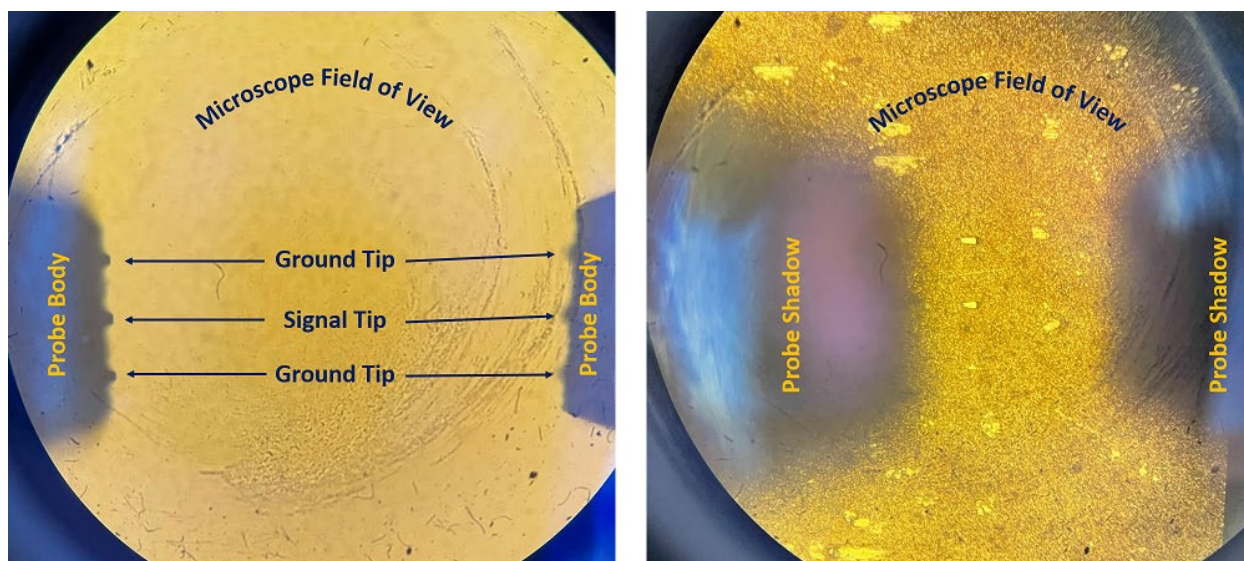

Fig. 3.2. Both probes within the field of view of the microscope but (a) almost touching the wafer chuck and (b) lifted up from the wafer chuck.
- 3.19 If you cannot see the shadow of any probe (Fig. 3.2), adjust the probe positioners to bring the probes closer to the chuck and each other. If you only see one probe in the microscope, carefully position the other probe with your bare eyes to bring it into the view. The microscope has a wider field of view than the TV has, so always check through the microscope before checking on the TV screen. Normally a 10X lens works well with devices that are several hundred microns long, so that the probes need to be several hundred microns apart. For larger devices that require the probes to be farther apart and to be seen under a wider field of view, you may try the 2X lens first. **However, never switch the lens without first raising the microscope fully!**
- 3.20 Raise the probes as high as possible but without losing their shadows as shown in Fig. 3.2(b). This way, when you to move to the contact substrate in the next section, the probes will not crash into them when the z-lever is lowered.
- 4.6 Gently lower the z-lever and make sure the probe shadows can be seen through the microscope [Fig. 3.2(b)], but the probes are not touching the contact substrate yet.
- 4.9 Lift the probe by adjusting the z-micrometer but keep its shadow in view of the microscope [Fig. 3.2(b)].
- 4.13 After both probes are planarized, make sure they are lifted up and you can only see their shadows in the microscope [Fig. 3.2(b)].
- 5.6 Lower the z-lever. You should see the probe shadows through the microscope [Fig. 3.2(b)]. Otherwise, gently adjust the probe positioners while monitoring the probe movement with bare eyes until you can see their shadows through the microscope. **Make sure the probes are not yet touching the ISS!**